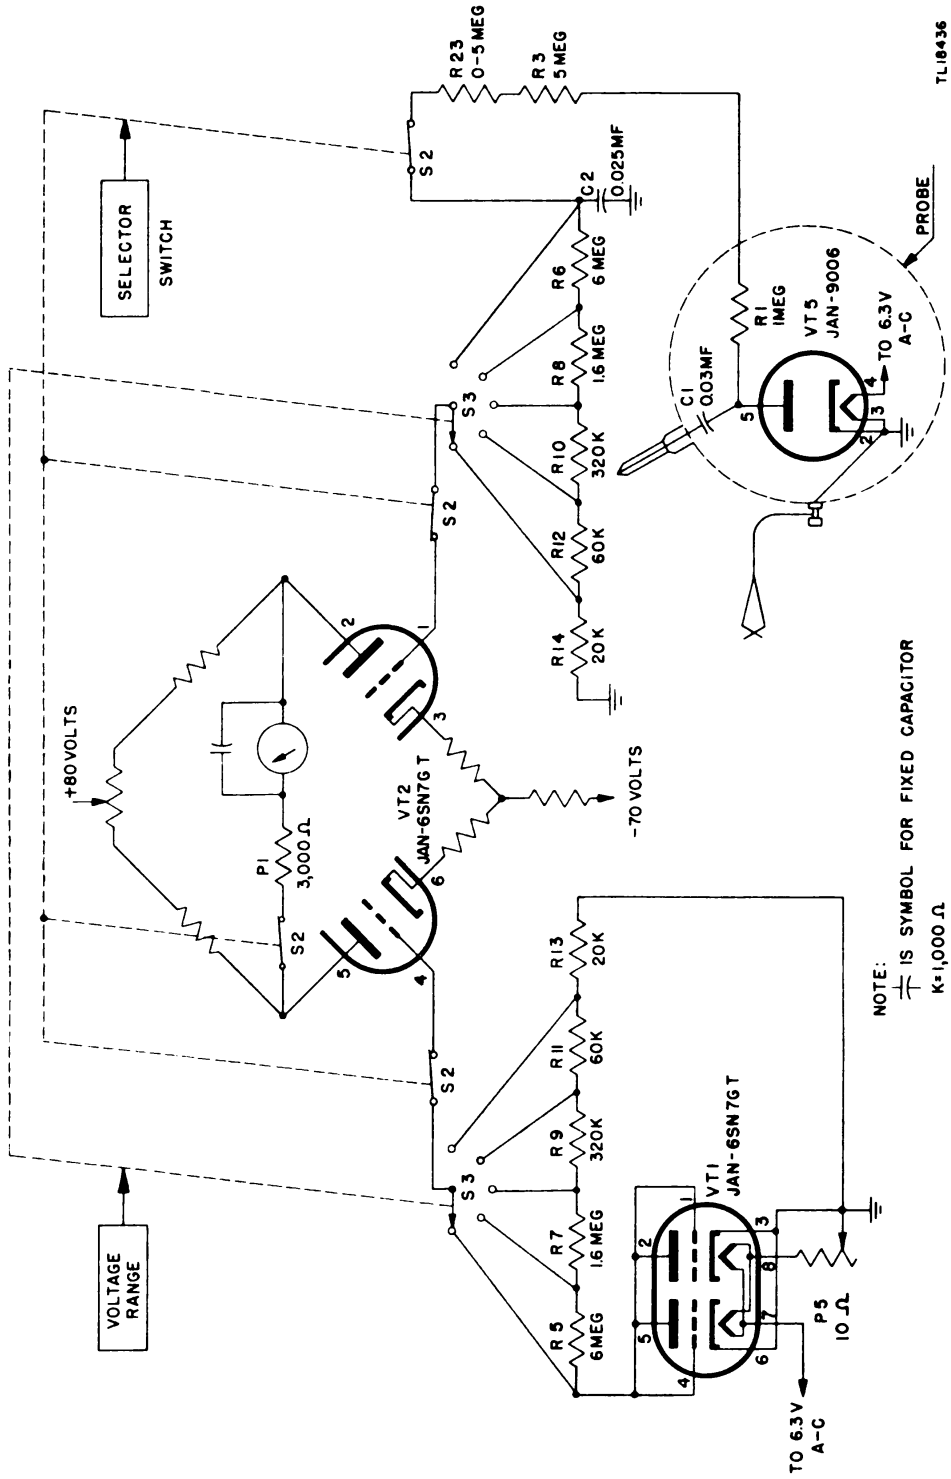

Figure 16. Simplified schematic diagram of a-c measurements circuit.
The a-c and r-f voltage measurements circuit consists of a diode probe, a contact potential bucking tube and its associated voltage-divider resistor network, and the d-c voltage measurements circuit. Figure 16 shows a simplified schematic diagram of this circuit with the probe components shown inside the circle.
(1) With *no* a-c or r-f input voltage at the probe tube, a zero-signal plate current of very small value flows in this tube. This current is normal for any diode and is caused by high-velocity electrons leaving the cathode and striking the plate even though no plate voltage is applied. As a result of the flow of this zero-signal plate current through the voltage-divider resistor network, a potential of approximately  $1\frac{1}{4}$  volts is obtained at the output of the diode. This is called a contact potential.
(2) If some means were not provided to correct this condition, a percentage of this contact potential would be applied to the control grid of the voltmeter bridge and a zero reading would not be obtained unless an adjustment of the BALANCE control were made. In addition, a readjustment of this control would be necessary each time VOLTAGE RANGE switch S3 were changed. To compensate for the presence of this contact potential, a bucking circuit is incorporated. This circuit consists of a contact potential bucking tube VT1 (JAN-6SN7GT) and a resistance network which has identical resistor values as has the d-c voltage-divider resistor network.
(3) The two triodes of the bucking tube are connected in parallel and, in addition, the grids of the tubes are connected to the plates making the tube perform as a single diode (fig. 16). A zero-signal plate current also flows in this diode and because the resistance in the circuit is identical with the resistance in the d-c voltage-divider network, the currents through these two networks may be made equal. Likewise, the voltages appearing across the two networks as a result of contact potential may also be made equal. A potentiometer is inserted in one of the heater leads of the bucking diode for this purpose. This control regulates the amount of electron flow in the tube and, when properly adjusted, allows the zero-signal plate current in the bucking tube to have the same value as the zero-signal plate current of the probe tube.
(4) Since the contact potentials so developed are equal, balance in the bridge is maintained by applying the potential obtained from the bucking diode to one grid of the bridge tube and the potential obtained from the probe diode to the other grid of the bridge tube. Furthermore, because VOLTAGE RANGE switch S3 is a multiple switch and controls the position of the contact arms for each resistor network simultaneously, the voltages applied to the grids are always equal regardless of the range being used.